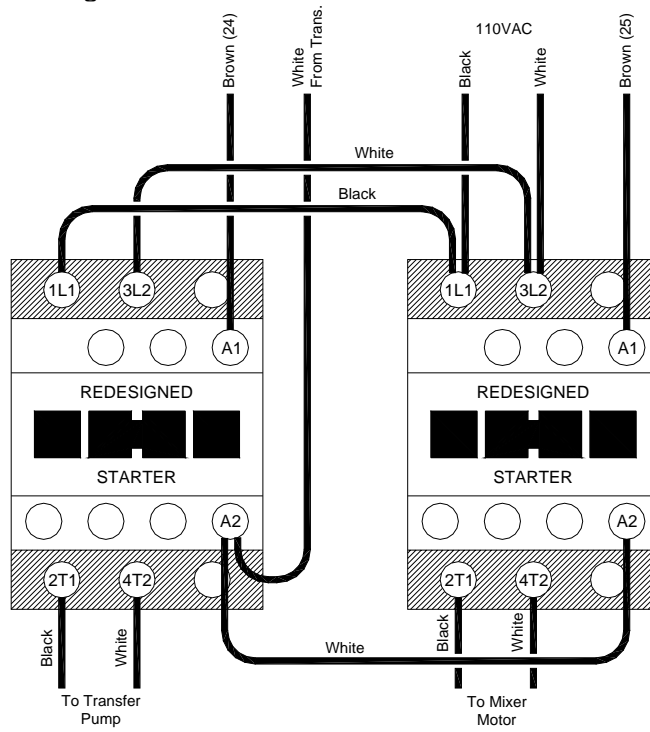

Figure 5
- When replacing both original style Starters with redesigned Starters, refer to Figure 5 for the correct wire configuration.